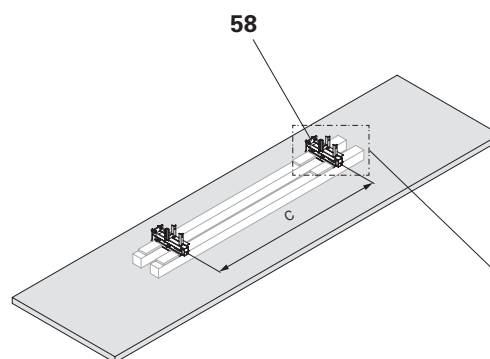

Fig. B9.01
1. Lay out the Platform Beam ACS (**58**) in the bracket spacing. (Fig. B9.01)